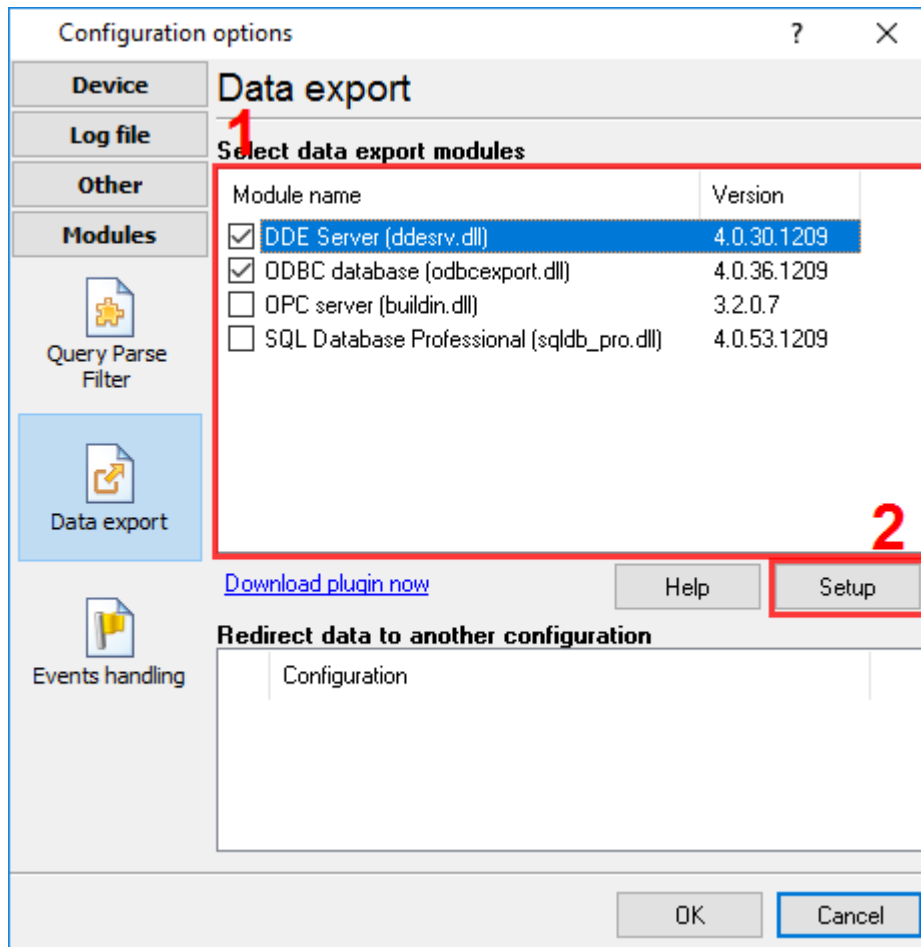

Figure 1. Selecting a data export module
1. Select the "DDE server" data export module (Figure 1).
4. Open the list of data export modules (Figure 1) and double-click "DDE server."